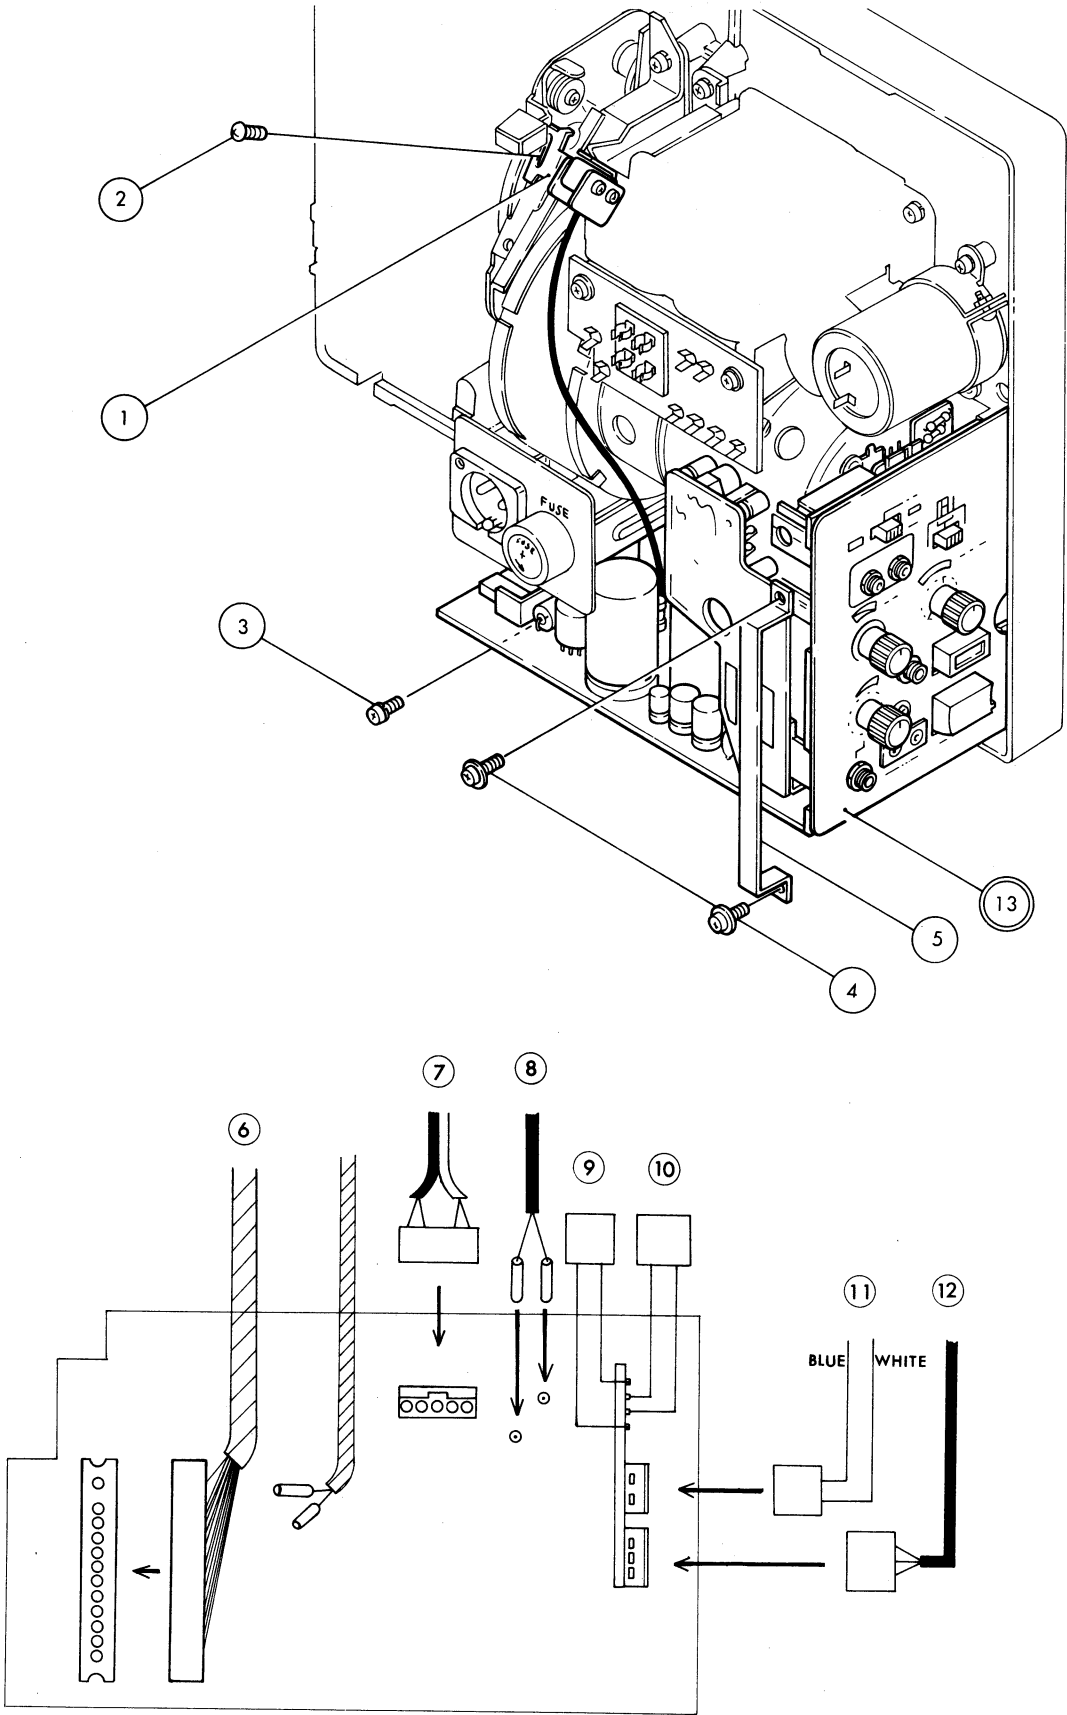

Fig 36
A. Disassembly Refer to Fig.36.
1. Remove (2)x2 and take out (1).
2. Remove (14)(15) and take out (13).
3. Remove (4), pulling the sprocket towards yourself. And take out (5)(6)(7) together.
2. Remove (2) and take out (1).
3. Remove (3) and (4)x2. And disconnect from (6) to (12), slightly pulling out ((13)) towards yourself.